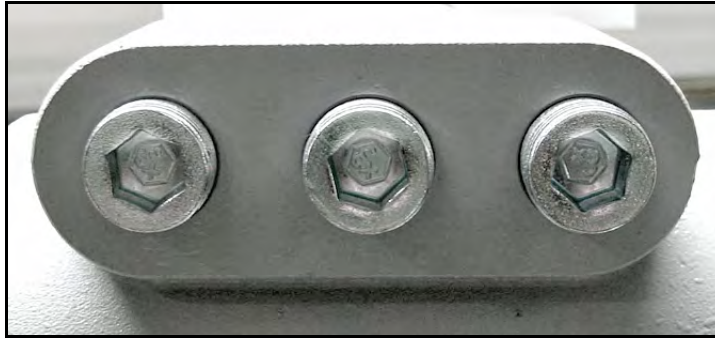

Figure 24: Conduit Inlet Ports
1. **Aurora H2O** has three  $\frac{3}{4}$ " NPT conduit inlet ports for power and I/O (see *Figure 24* below). These will normally be shipped plugged from the factory. Follow the applicable wiring code and requirements for wiring the unit.